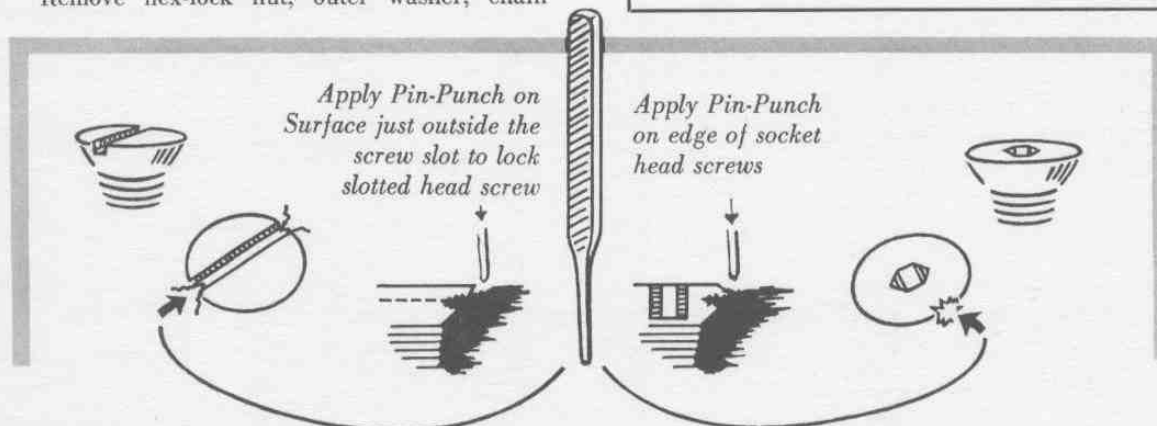

Figure 7-2 Staking screw heads with pin-punch
3. The sprocket shaft and pulley (26, 5-30, and 7-29) are assembled with four slotted, flat head screws. The head of the sprocket shaft has been pin-punched at the ends of each screw slot. This keeps the screws staked in position. To free the screw slots for screw removal, tap the swaged metal from the screw slots with a chisel. An impact type screwdriver makes removal of these screws easy. (See Figure 7-2.)